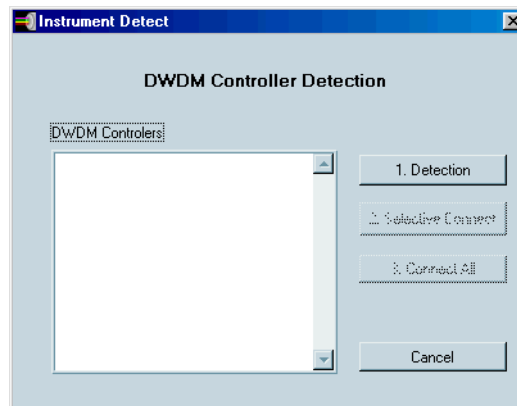

Figure 3-1. Instrument Detect Window
1. From the menu bar, select **Instrument** → **Detect...** to display the Instrument Detect window shown in Figure 3-1.